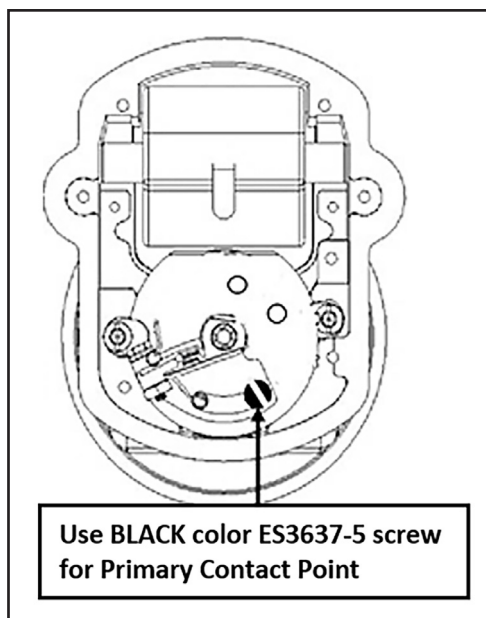

Figure 6.7 – Attach the Contact Assembly (Cont.)
- (1) Attach the contact assembly (11) to bearing cap (8) using the BLACK color contact assembly mounting screw (15). Reference Figure 6.7.
- (2) Do not tighten screws until contact assemblies (11) are adjusted in § 6.13.E.
- (3) Proceed to § 6.13.D.